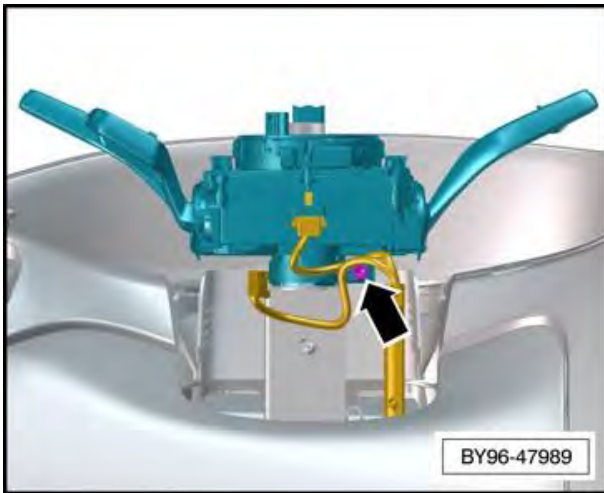

Figure 58
1. Check the security of the steering column multi-function clamp (Figure58) the torque of the fastener is 5Nm